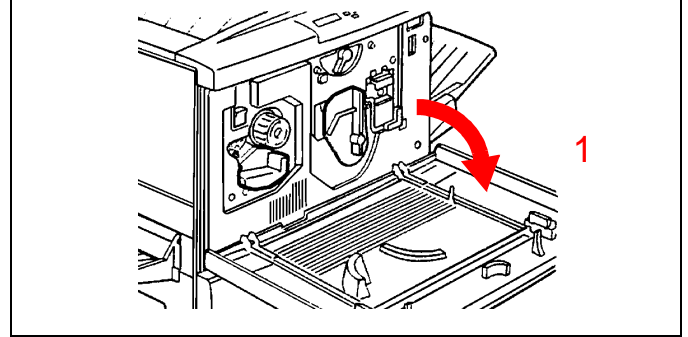

Figure 22
1. See Figure 22. Open the front cover of the copier/printer.